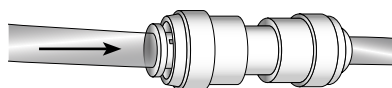

Figure 3
- Route a 1/4" Copper, Pex or equivalent tubing from the water source and connect to the water inlet fitting on the unit as shown in **Figure 3**.